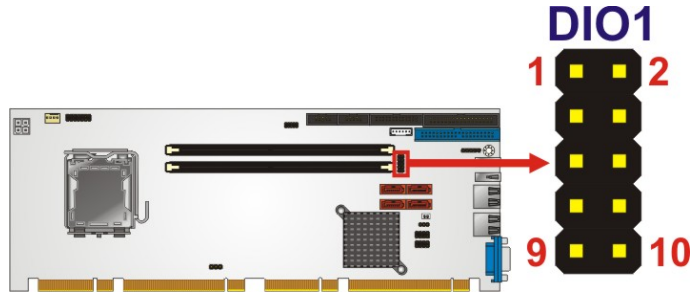

Figure 3-6: Digital I/O Connector Locations
- CN Location:** See **Figure 3-6**